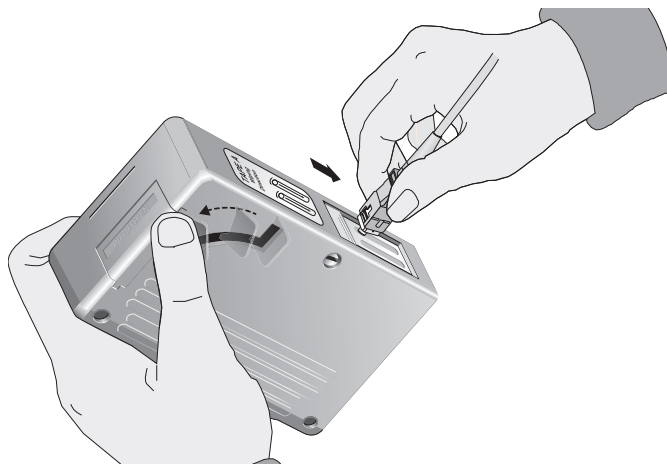

Figure 49. Rubbing the Ferrule Tip on the Cleaning Surface
1. With one hand, hold the cartridge cleaner and push the lever on the cleaning cartridge in the direction of the arrow to expose the cleaning surface, as shown in Figure 49.
2. Place the ferrule tip on the exposed cleaning surface and rub the ferrule in a downward direction, as shown in Figure 49.